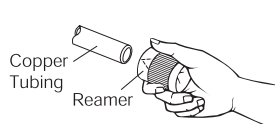

Figure 8
2. Remove burrs at the end of the copper tube with a tube reamer or file, as shown in Figure 8.
2. Remove burrs at the end of the copper tube with a tube reamer (Figure 8).